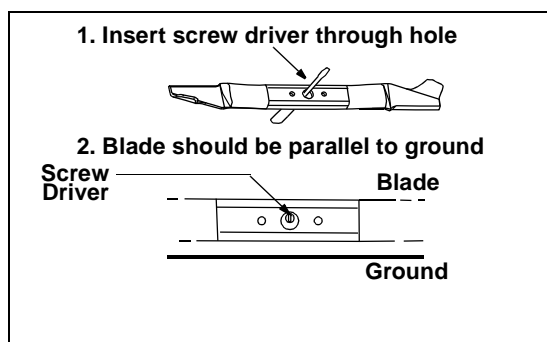

Figure 17
- Test the blade by balancing it on a round shaft screwdriver or a blade balancer. See Figure 17.